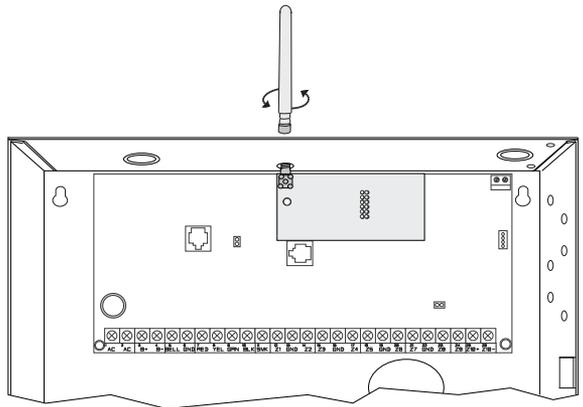

Figure 2: Installing the 263HINT on an XT30INT
7. Attach the included antenna to the SMA connector. See Figure 2.
9. Attach the opposite end of the 381-2 Coax to the SMA connector on the 263HINT. See Figure 2.